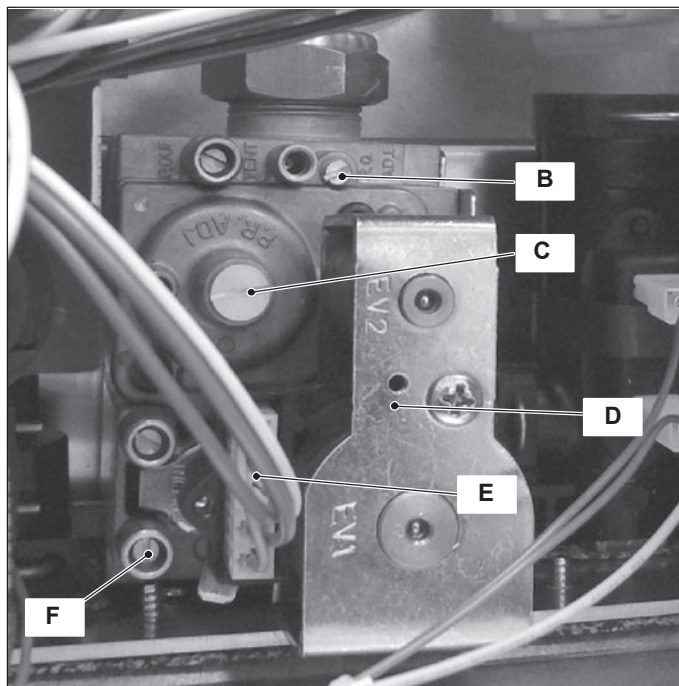

Figure 11.2
(Figure 11.2)
- 3 Loosen the internal screw on the Inlet Pressure Test Point F (Figure 11.2) of the Gas valve and connect a pressure gauge using a suitable hose.
- 10 Disconnect the pressure gauge and close the Inlet Pressure Test Point F (Figure 11.2).
To adjust the CO₂ % value remove the brass plug by unscrewing it and rotate the Allen key screw ø 4mm (C - Figure 11.2) (by rotating it clockwise the CO₂ % increases).
To adjust the CO₂ % value rotate screw (B - Figure 11.2) (by rotating it clockwise the CO₂ % decreases).
- 27 After adjustment fit the protective brass plug (C - Figure 11.2).
- 2 Disconnect the electrical connector E (Figure 11.2).